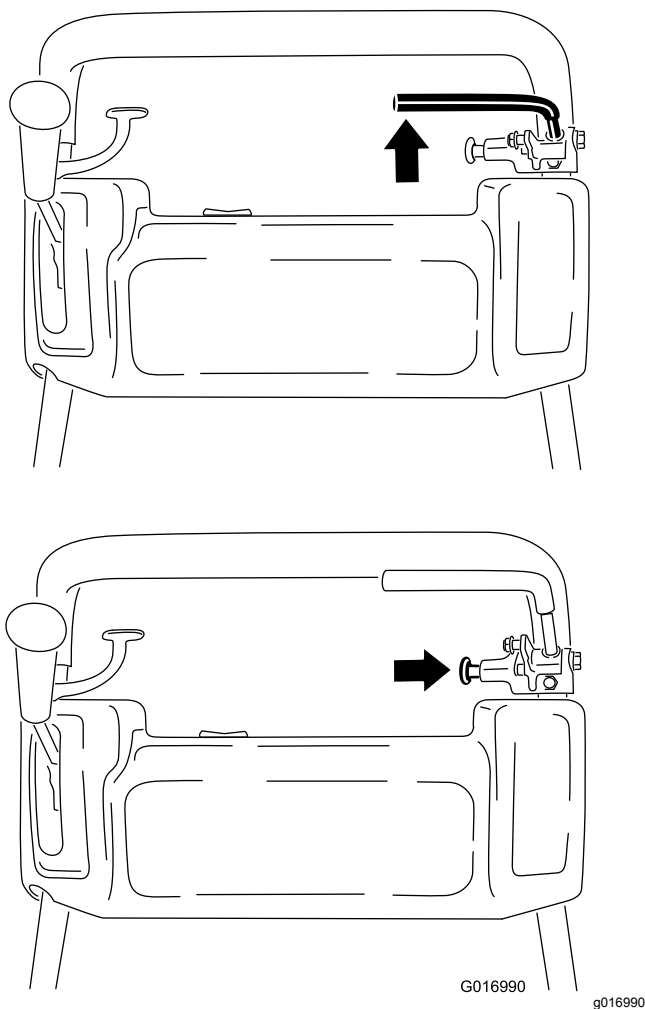

Figure 32
1. Engage the service brake, push in the parking brake knob, and allow the service brake to rest on the parking-brake pin (Figure 32).